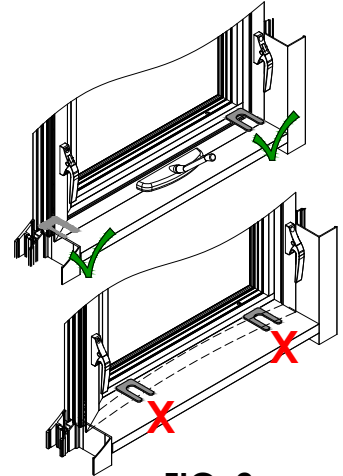

FIG. 2
- Set Horseshoe shims onto the sill opening at each corner. Carefully set the vent onto the shims . See **FIG. 2**